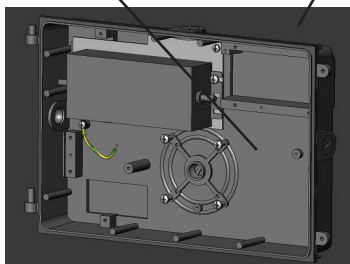
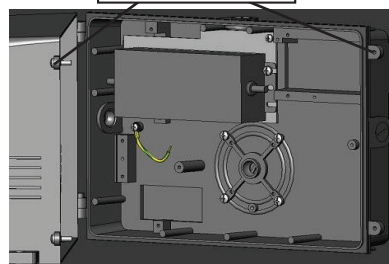

Figure 1
Figure 2
3. Line up the back plate in desired location and mount securely. (Two gaskets provided for weather-tight seal between template and junction box.) (Figure 1)
- Fire wire (L) to the black line
- Neutral wire (N) to the white line
- Ground wire (G) to the green/yellow line
5. Put the cover on by connect the hinge. (Figure 2)